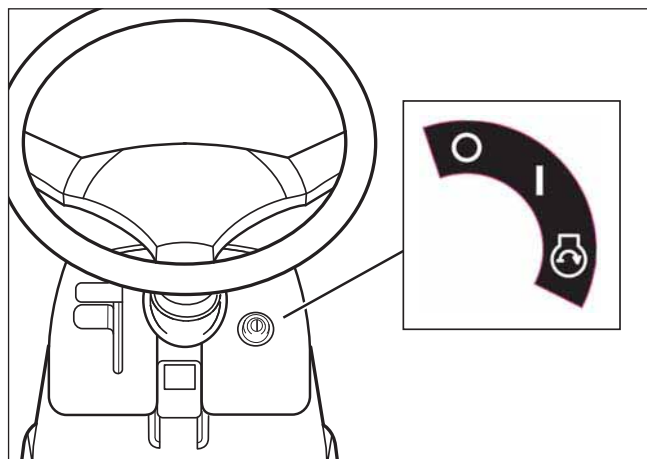

Figure 18
6. Turn the ignition key to the OFF position to stop the engine (see Figure 18).
1. Turn the ignition switch to the ON position to start the engine (see **Figure 18**).
5. Turn the ignition key to the START position (see Figure 18).